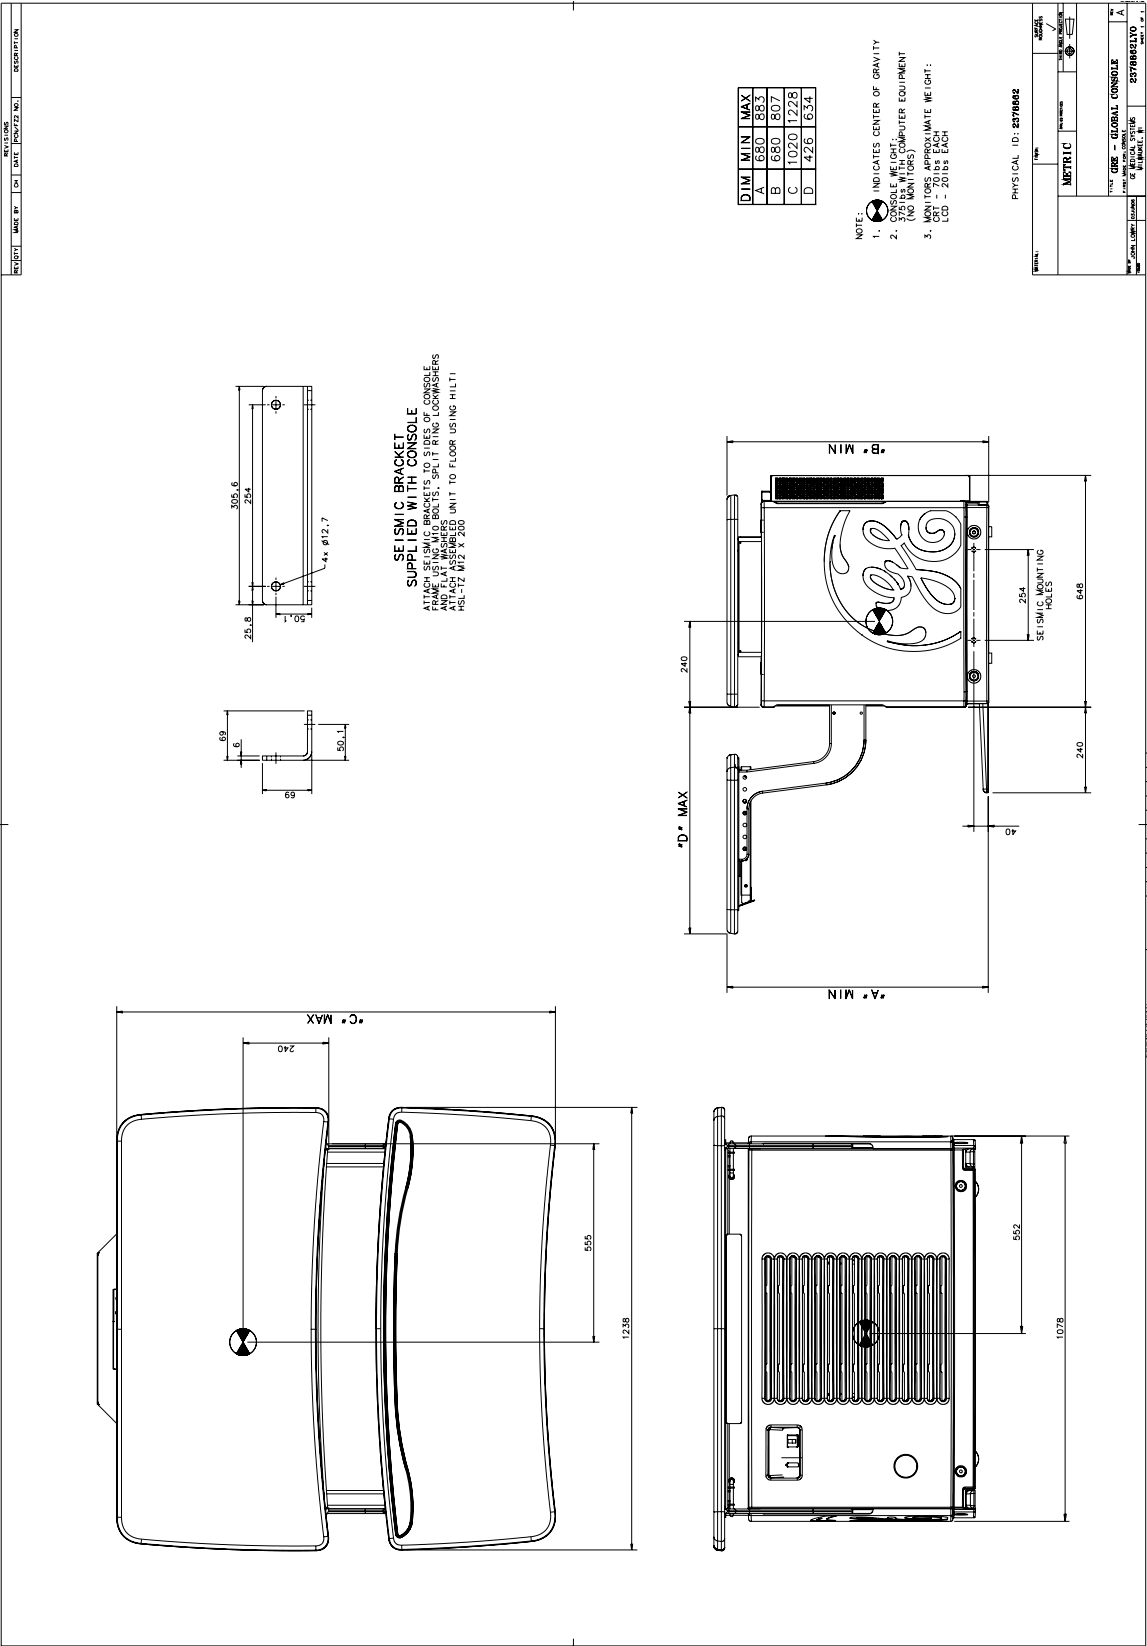

Figure 5-5 Operator's Console
- Operator's Console/Computer: Figure 5-5